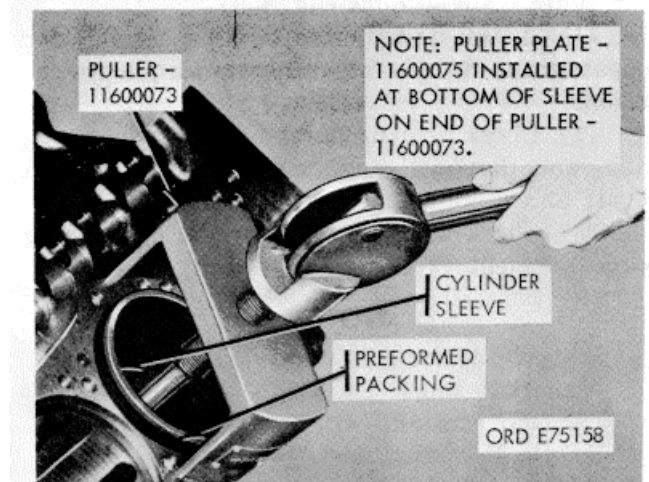

Figure 3-2. Cylinder sleeve removal
c. *Cylinder Sleeves* (fig. 3-2).